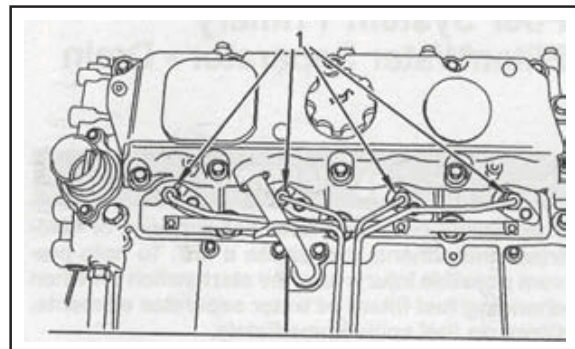

Fig. 90
1. Remove the cover for the fuel injectors (Fig. 90). Refer to the Disassembly and assembly Manual.
4. Loosen the flare nuts (1) for the high pressure fuel lines on all of the fuel injectors.
6. Tighten the flare nuts (1) to a torque of 30 Nm.